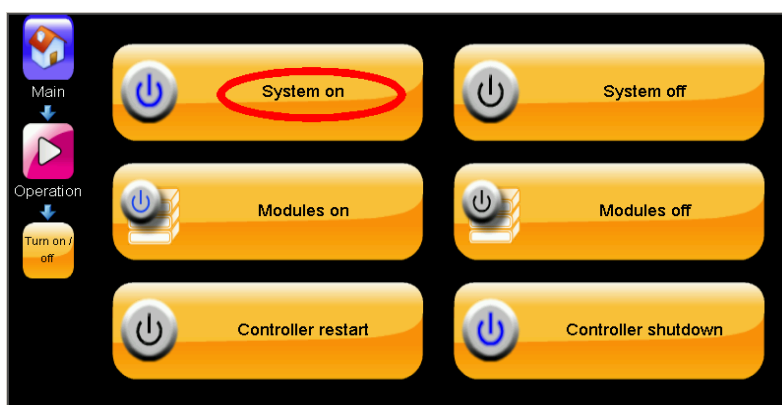

Figure 9: The "Turn off / on" submenu
3. Tap the top button labeled **"Turn on / off"** on the Operation submenu. Another menu appears (Figure 9).